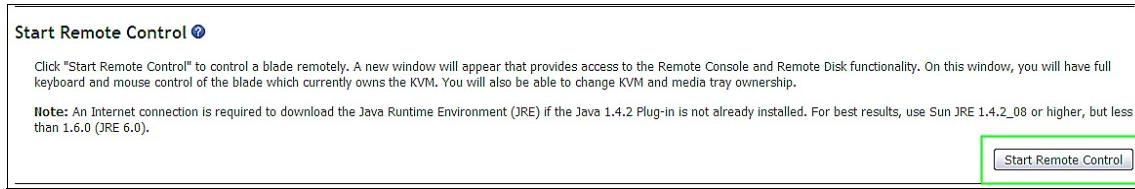

Figure A-5 Start remote control
- Click **Start Remote Control** as shown in Figure A-5. A new window will open with the remote control Java applet. Be sure that there are no popup blockers running or configure them to allow the popup windows from the AMM. It may take some time for the window to appear and load the applet.